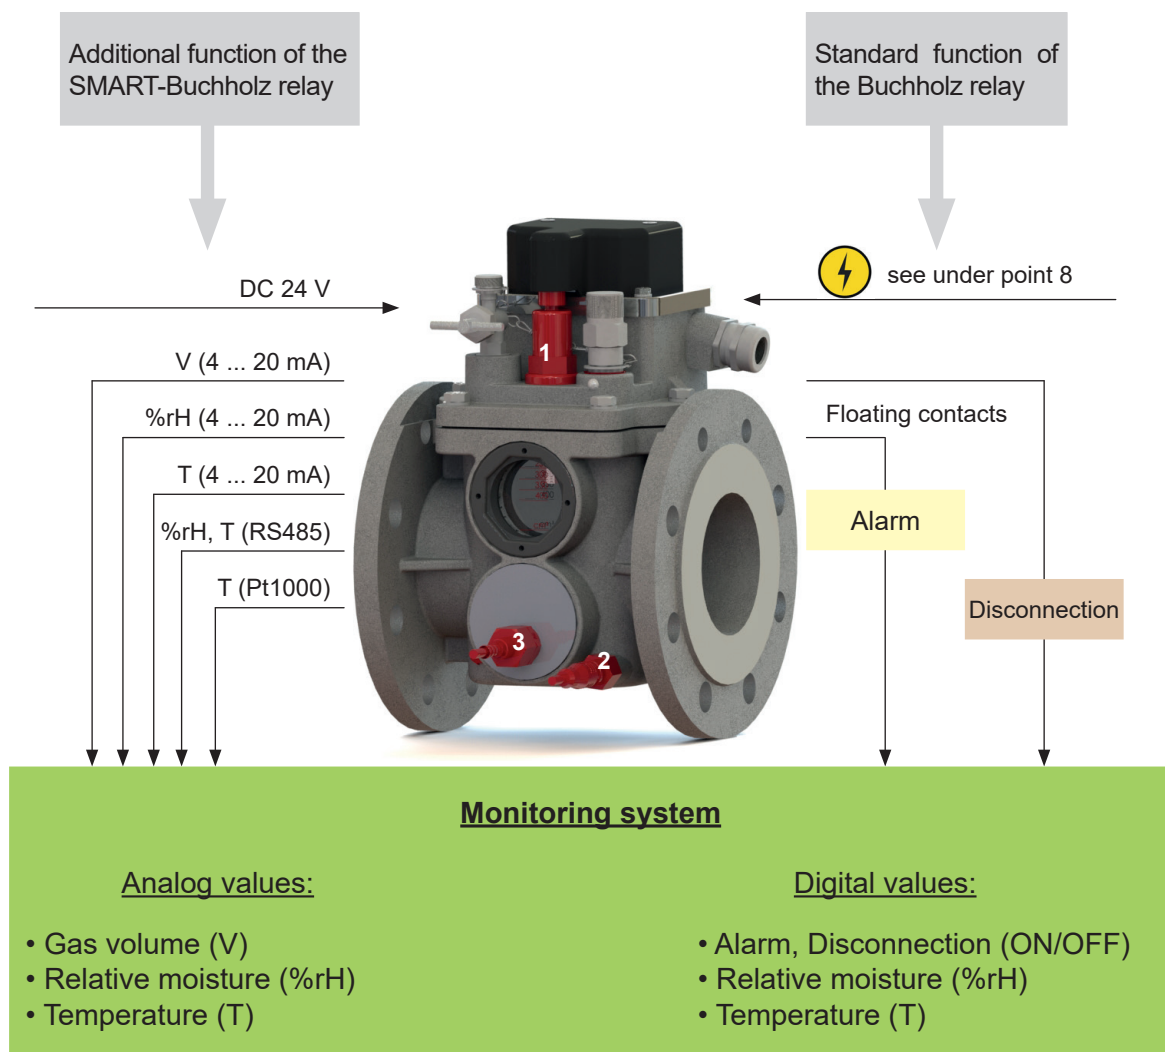

Figure 29 - Additional functions of the SMART-Buchholz relay
- Gas volume sensor - NM series (Fig. 29/ No. 1)
- Temperature sensor (Fig. 29/ No. 2)
- Moisture-temperature sensor (Fig. 29/ No. 3)